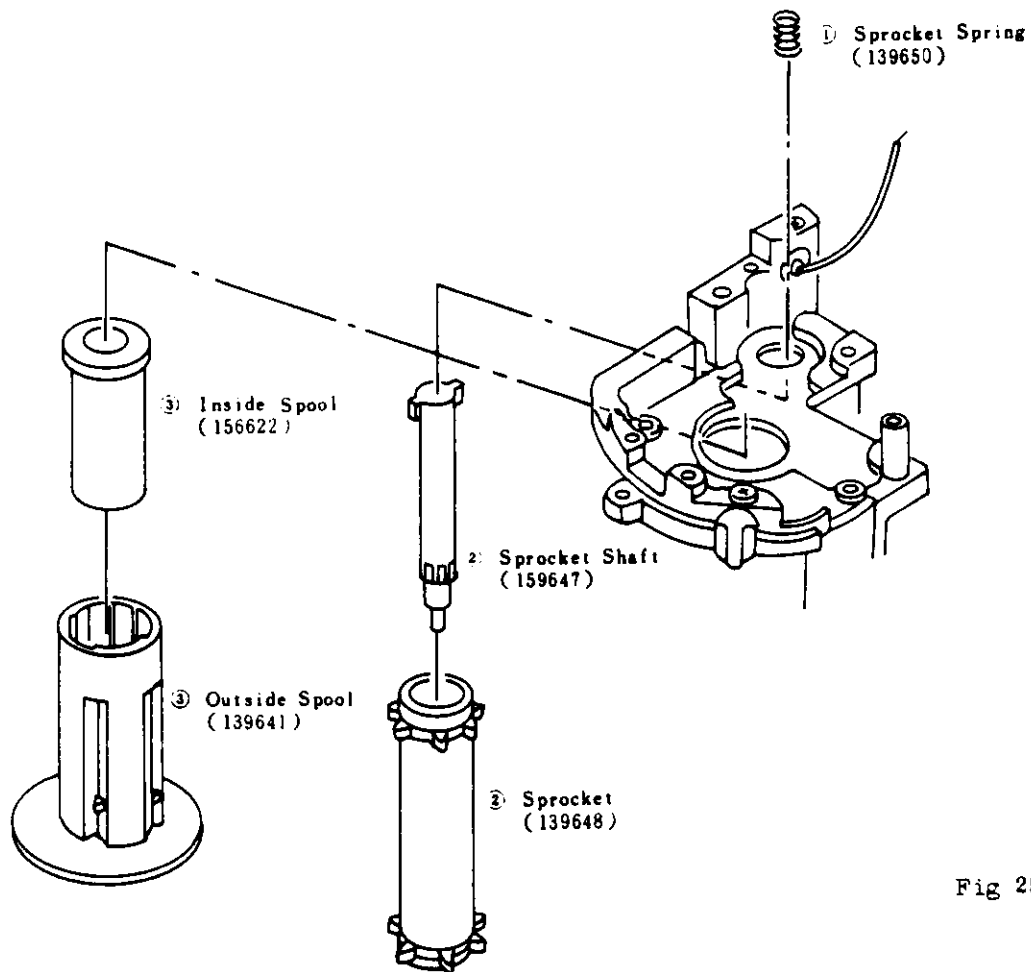

Fig 25
d) Remove the respective parts ①~③ shown in (Fig 25) in numerical order.